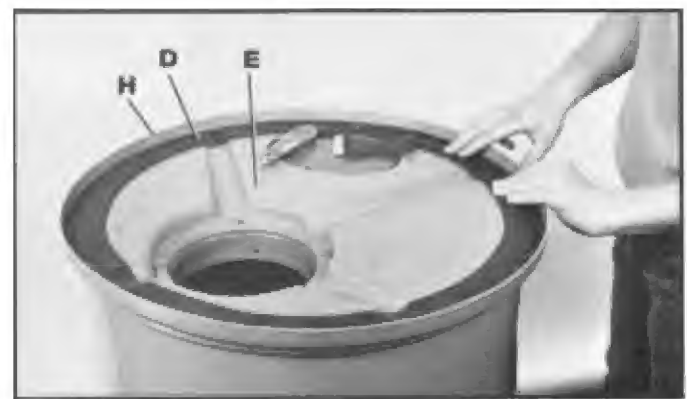

Fig. 25
3. Apply 1-1/4" gasket material (D) Fig. 25, supplied, to underside of fiberglass drum lid (E) as shown, adjacent to lip (H) of drum lid. **NOTE:** Do not apply gasket material (D) to lip (H) of lid. Gasket (D) will provide an airtight seal between drum lid and standard 55 gallon drum (not supplied).